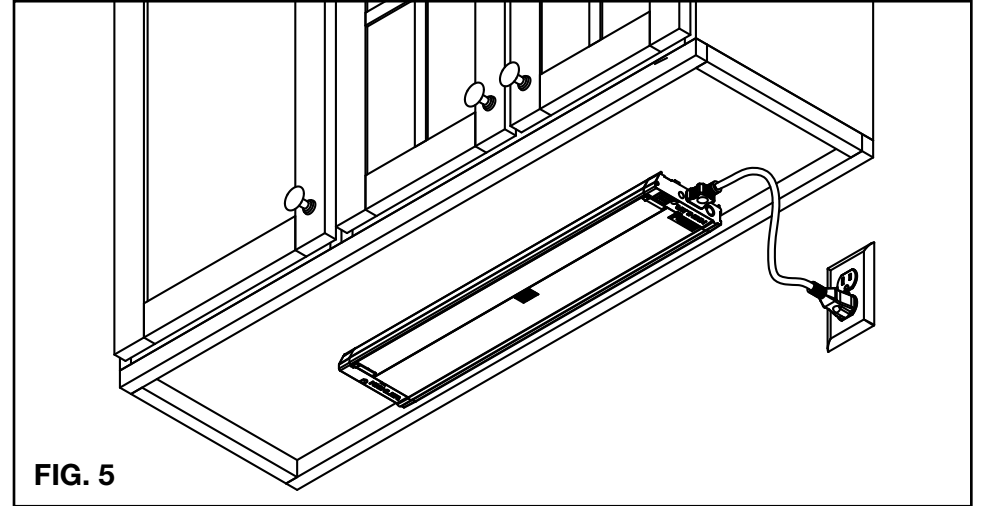

FIG. 5
1. Hold the fixture in the desired mounting location, leaving approximately 2 1/2" clearance for plug-in cord, and not more than 5' from the nearest outlet. Drive mounting screws into cabinet surface until fixture is secure. If screws are difficult to install, mark holes and drill 1/16" maximum pilot holes. (ref. FIG.5)